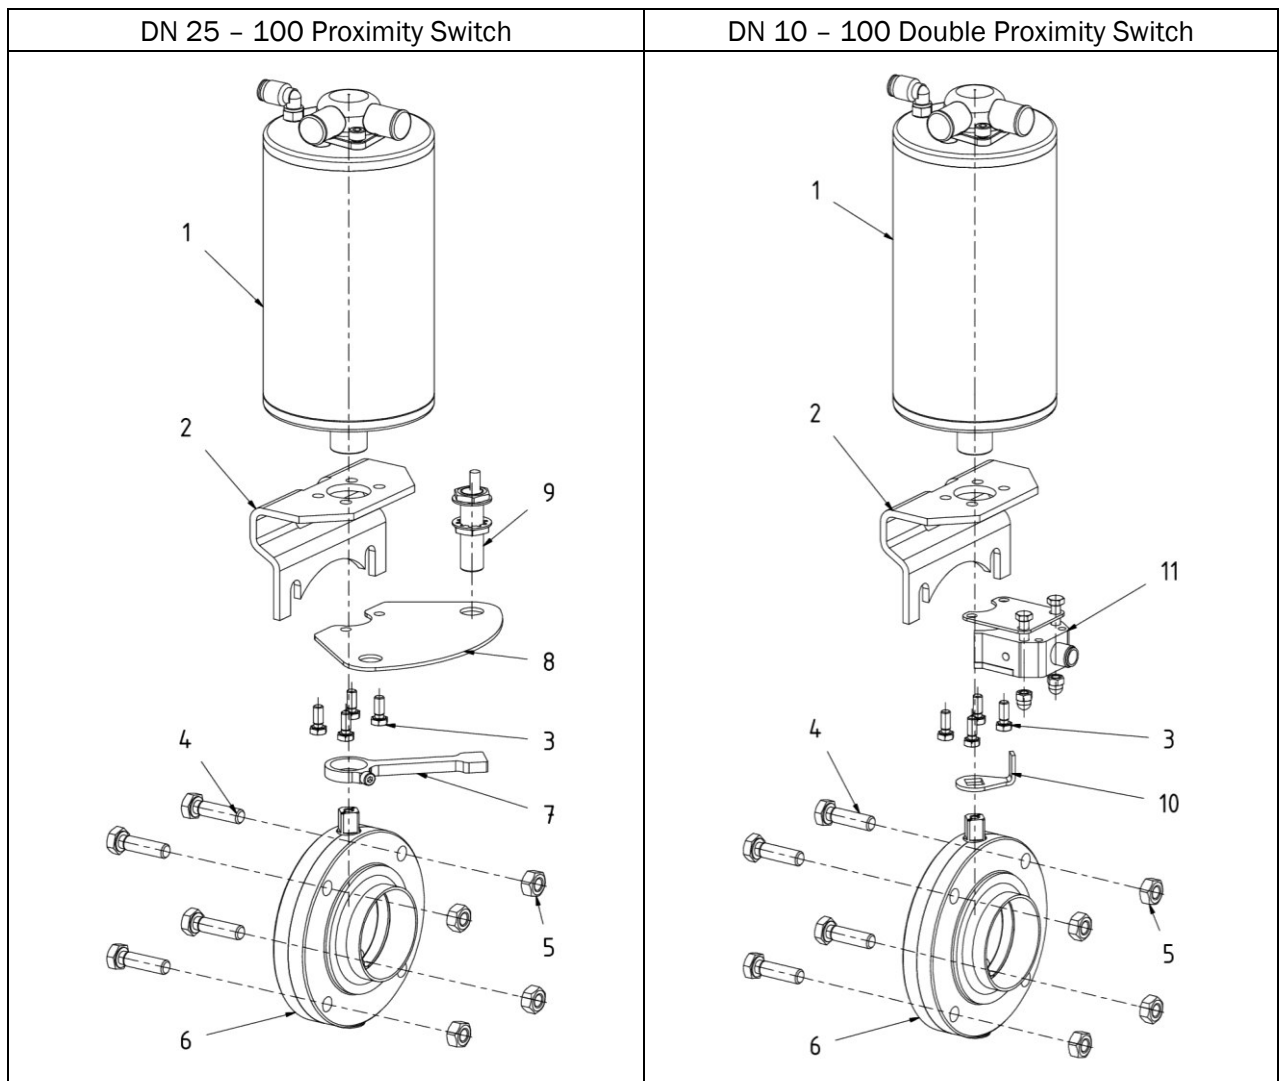

Fig. 6.8: Component Layout of the Pneumatic Actuator with Feedback
If you intend on using a feedback device, attach it below the holding bracket (Fig. 6.8, item 2) before combining the pneumatic actuator (Fig. 6.8, item 1) and the butterfly valve.
- Fasten the support (Fig. 6.8, item 8) and holding bracket (Fig. 6.8, item 2) to the pneumatic actuator (Fig. 6.8, item 1) using the hexagonal bolts (Fig. 6.8, item 3).
- Clamp the signal contact arm (Fig. 6.8, item 7) to the actuator shaft of the actuator.
NOTE: When doing this, make sure that the end of the signal contact arm (Figure 6.8, item 7) is located just below the proximity switch in the “Open” or “Closed” position, and that the proximity switch has been installed in the hole of the support (Figure 6.8, item 8), perpendicular to the cylinder of the pneumatic actuator (Figure 6.8, item 1).